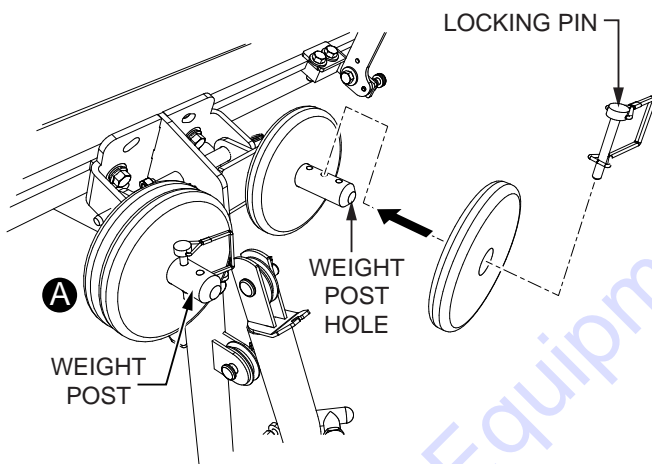

Figure 26. Weight Installation
1. Open the locking pin (Figure 26).
4. A properly installed weight is shown in Figure 26 letter (A).